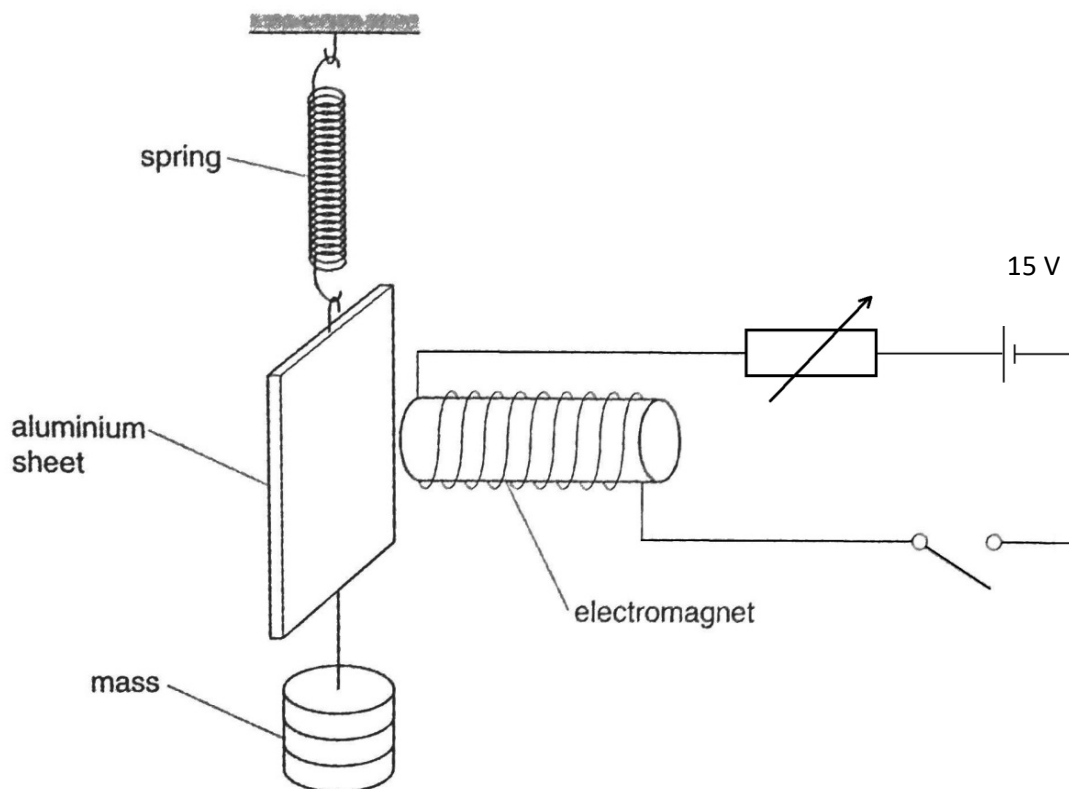

Fig 4.1
- (iii) Draw and label on Fig 4.1 the followings, as the aluminium sheet moves down during the damped oscillation, the direction of
- (b) Suggest how critical damping can be demonstrated using the apparatus of Fig 4.1. [4]